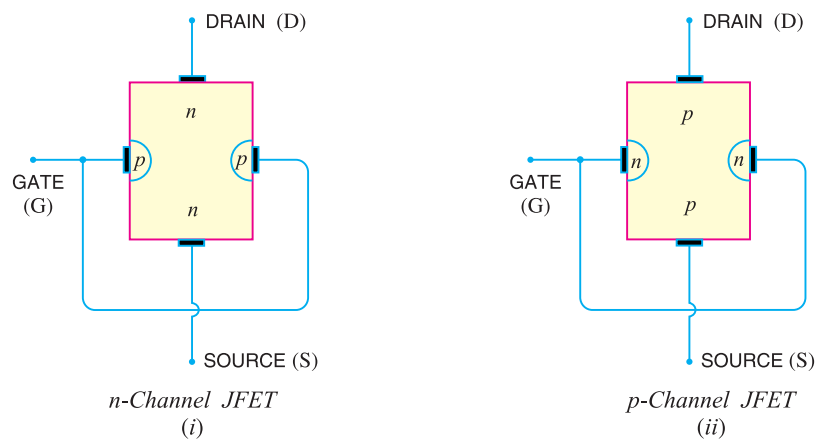

Fig. 19.1
**Constructional details.** A *JFET* consists of a *p*-type or *n*-type silicon bar containing two *pn* junctions at the sides as shown in Fig.19.1. The bar forms the conducting channel for the charge carriers. If the bar is of *n*-type, it is called *n-channel JFET* as shown in Fig. 19.1 (i) and if the bar is of *p*-type, it is called a *p-channel JFET* as shown in Fig. 19.1 (ii). The two *pn* junctions forming diodes are connected *\*internally* and a common terminal called *gate* is taken out. Other terminals are *source* and *drain* taken out from the bar as shown. Thus a *JFET* has essentially three terminals *viz.*, *gate* (*G*), *source* (*S*) and *drain* (*D*).
\* It would seem from Fig. 19.1 that there are three doped material regions. However, this is not the case. The gate material *surrounds* the channel in the same manner as a belt surrounding your waist.